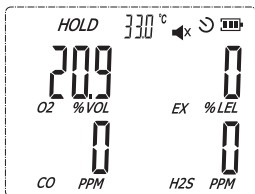
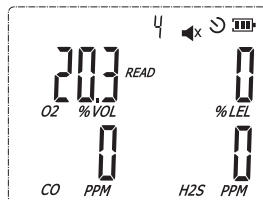

Figure 4
Figure 5
3) Right button : Short press the data hold button as shown in Figure 4 and long press it for reviewing the historical data as shown in Figure 5.